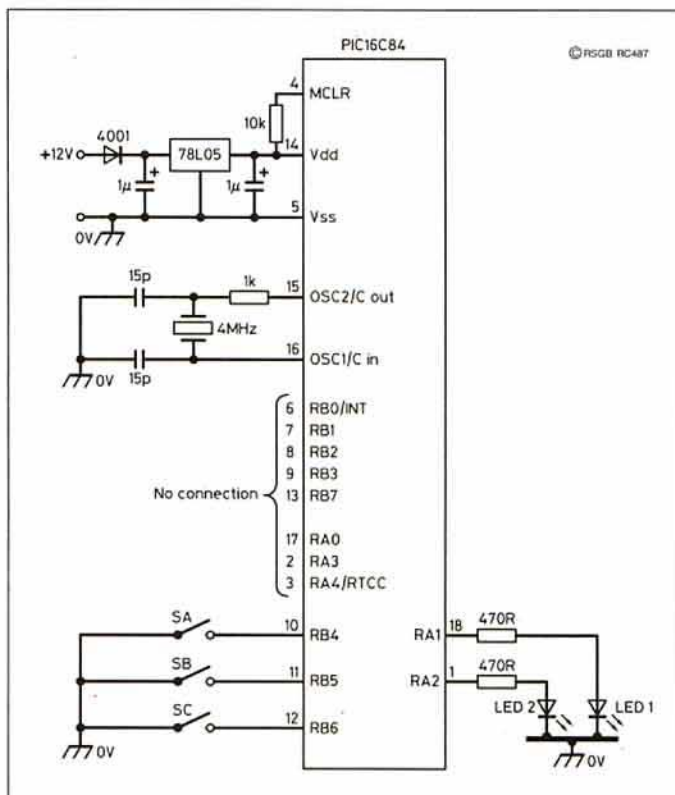

Fig 1: Simple microprocessor control of LEDs using switches.
Step 3. The PIC 16C84 has 18 pins, of which 13 can be used for input and output purposes. Fig 1 shows the PIC 16C84 in a typical circuit. It has three switches as inputs, and 2 LEDs as outputs. Very few other components are needed to make it work. Its 13 pins can source or sink up to 20mA each, so it can drive the LEDs directly. Pull-up resistors are not necessary on the inputs as some pins can have these internally. For applications where accurate timing is not necessary a simple capacitor and resistor will operate the on-board oscillator. If your design needs accurate generation of pulses or timing, a ceramic resonator or crystal can be used with the oscillator, as shown in Fig 1. A stable 5 volt supply is required. This is easily supplied by a 7805 regulator. The low power type is ideal as the PIC 16C84 uses less than 2mA, mak-